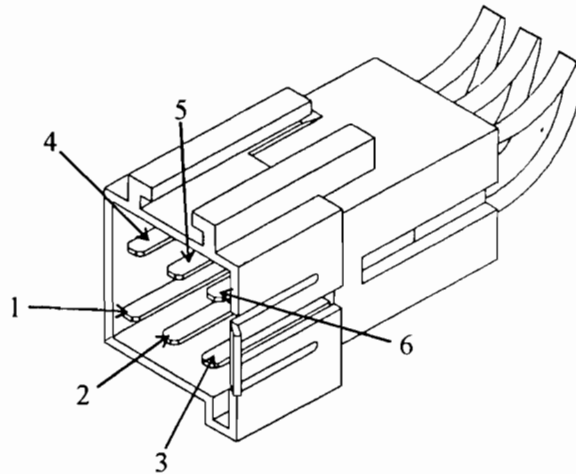

Figure 7
1. Check terminals 3 and 4 in the diagnostic connector individually (See Figure 7). They should each have approximately 2.52 volts. The check should be made with the key on and engine off. If the voltage value is greater than 2.8 or less than 2.2, there is either a failed controller, or shorted to ground or shorted to power or open and or bad grounds in the BUS wires. If the voltage is acceptable, go to step 2.